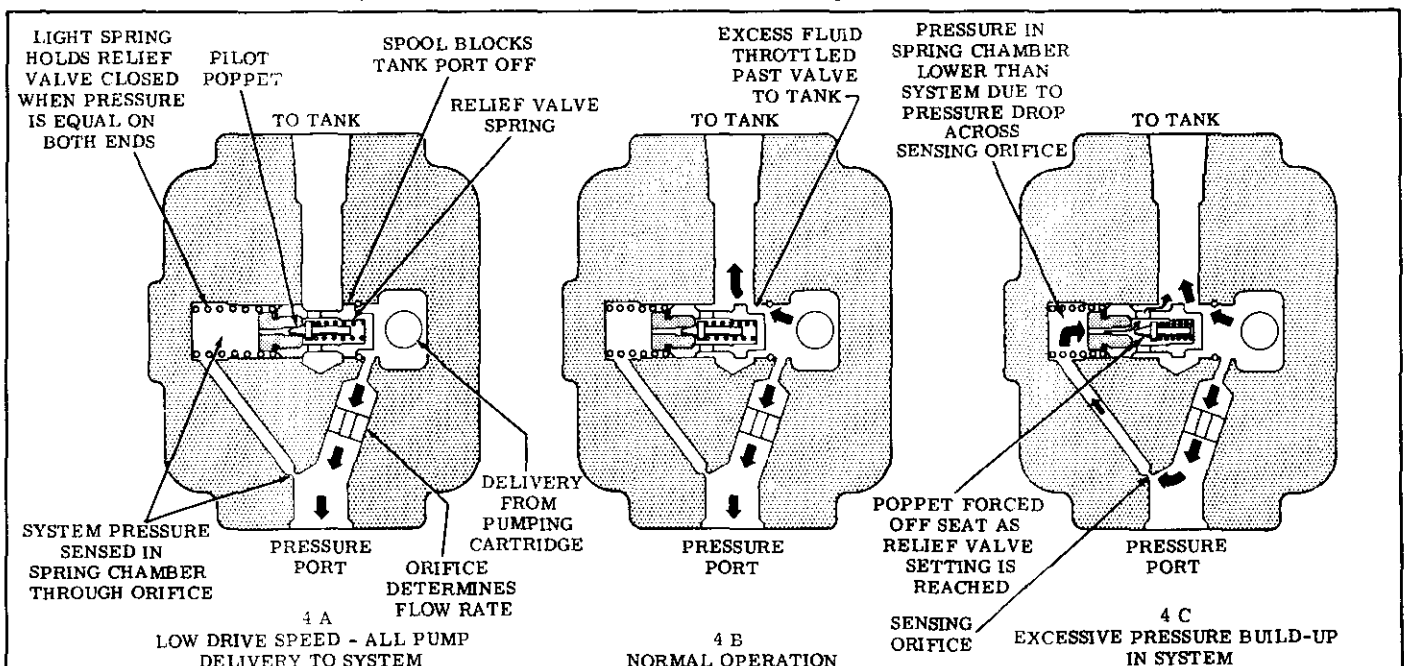

Figure 4
1. Maximum flow to the operating circuit and maximum system pressure are determined by the integral flow control and relief valve in a special outlet cover used on some V10 and V20 pumps. This feature is illustrated pictorially in Figure 4. An orifice in the cover limits maximum flow. A pilot-operated type relief valve shifts to divert excess fluid delivery to tank, thus limiting the system pressure to a pre-determined maximum.